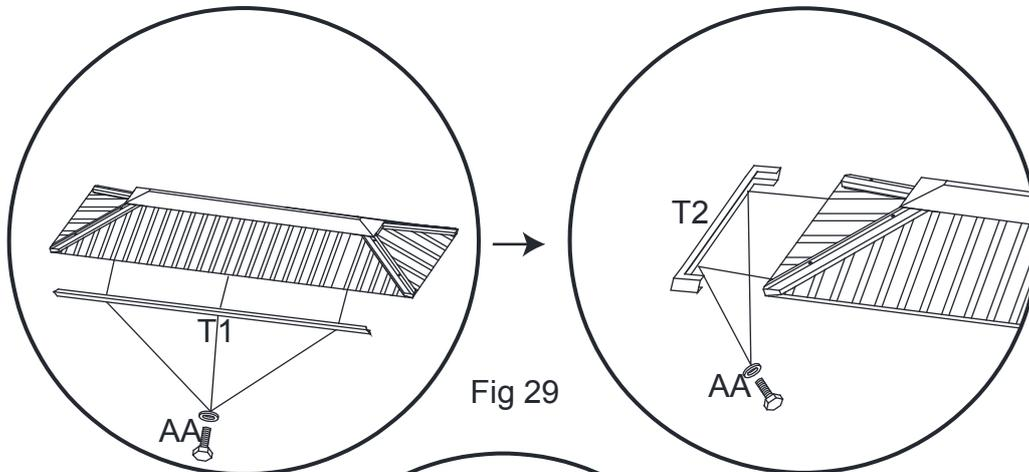

Fig 29
- 14.2 Install the Long Edge Sealing of Small-Top (T1) on the long side of the Small-Top with Bolt (AA). Install the Short Edge Sealing of Small-Top (T2) on the short side of the Small-Top with Bolt (AA), as seen in Fig 29.